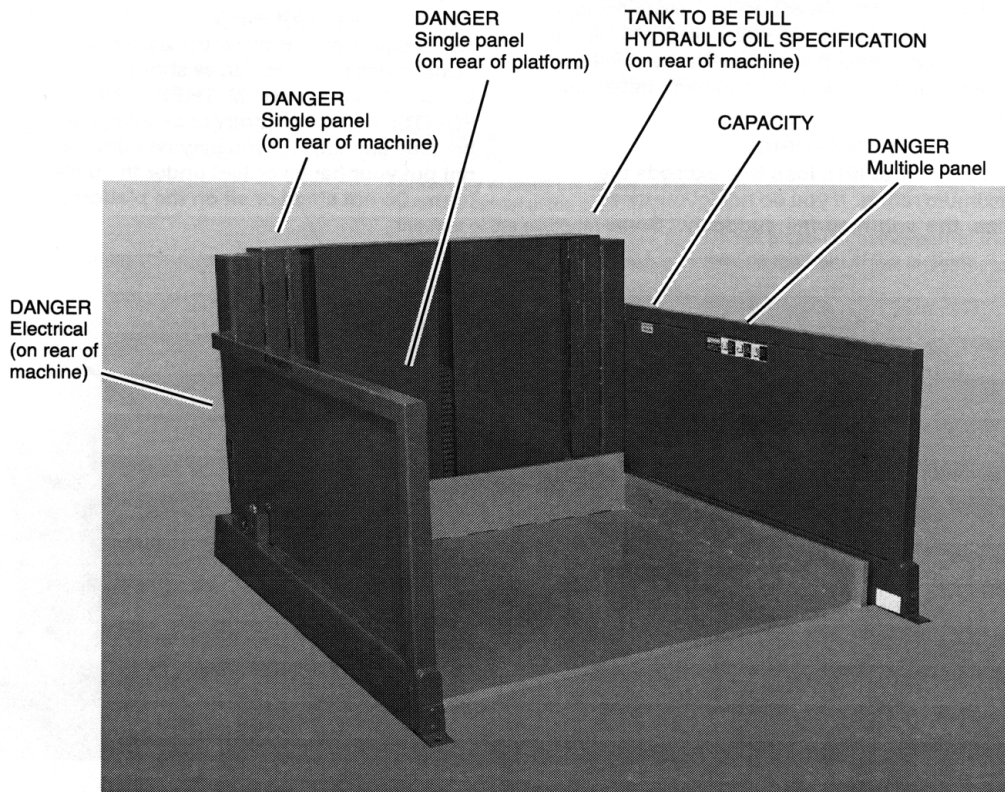

Fig. 1 Safety Labels
5. Figure 1 shows the safety labels on this unit. Check to be sure all of the labels are in place.
operation. Fig. 1 shows the safety markings on this unit.